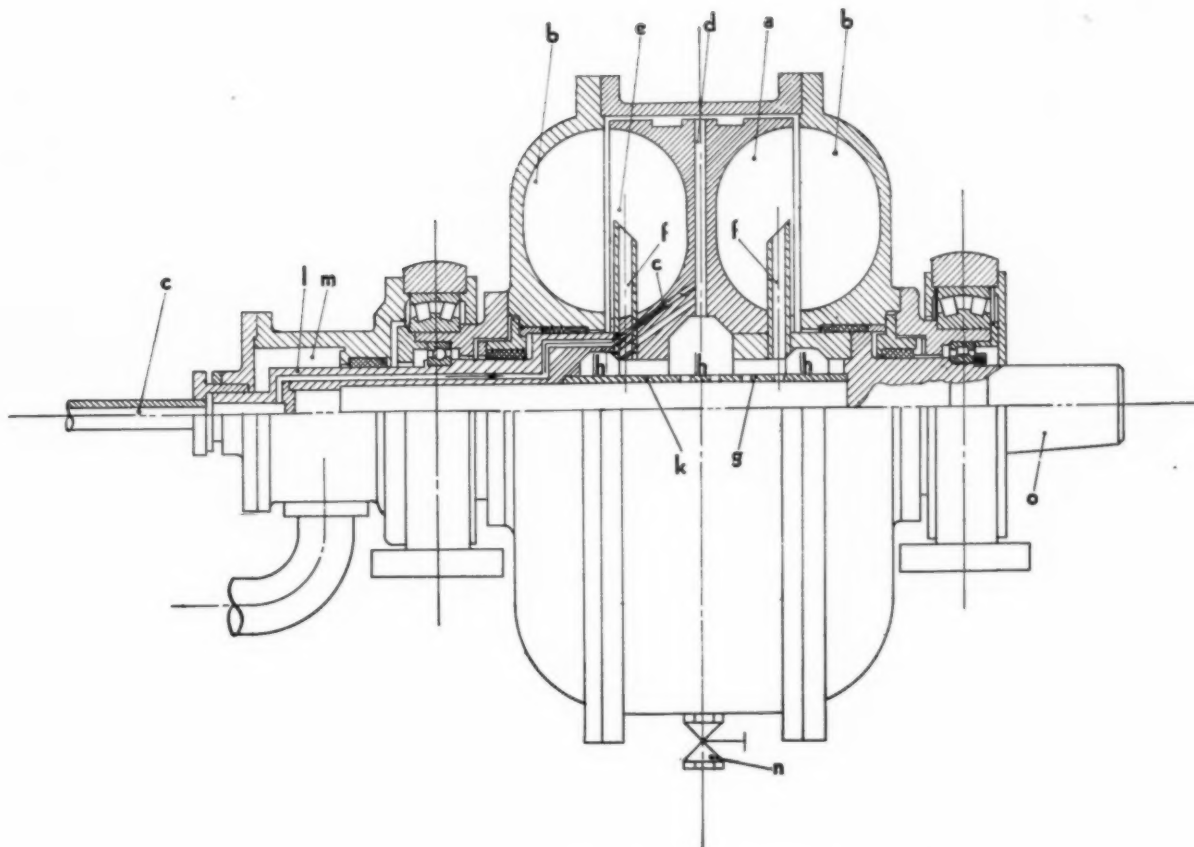

Figure 1. Low pressure steam dynamometer for pressures up to 7 psi.
1. Low pressure brake, Fig. 1, intended for 4.5 to 7.0 psi gauge pressure steam (about 225 to 230°F temperature). This construction was in actual use at the M.W.M. plant and the steam was utilized for plant heating.
The low pressure brake, Fig. 1, consists of two sets of bucket wheels, the inner set *a* forming the rotor driven by the engine through drive shaft *o*, and the outer set *b* being attached to the outer casing and forms the stator which is supported in roller type trunnion bearings. The water is admitted through the axial pipe *c* and flows through passages *e* and *d* provided in the hollow shaft and rotor wheel. The water forms a ring in the peripheral region of the stator casing. The steam collects within the water ring, then it is carried by the pipes *f* to the chambers *h* arranged in the hollow shaft, whence it flows through perforations *g* and *l* to the collecting head *m*, which latter is attached to the left-side trunnion bearing housing. Owing to the centrifuging action of the shaft rotation water droplets are separated from the steam and thrown through the perforations *g* back to the water ring, therefore the steam is dry. Leakage of steam is prevented by graphite seal rings of special construction mounted between the rotor shaft and the stator.